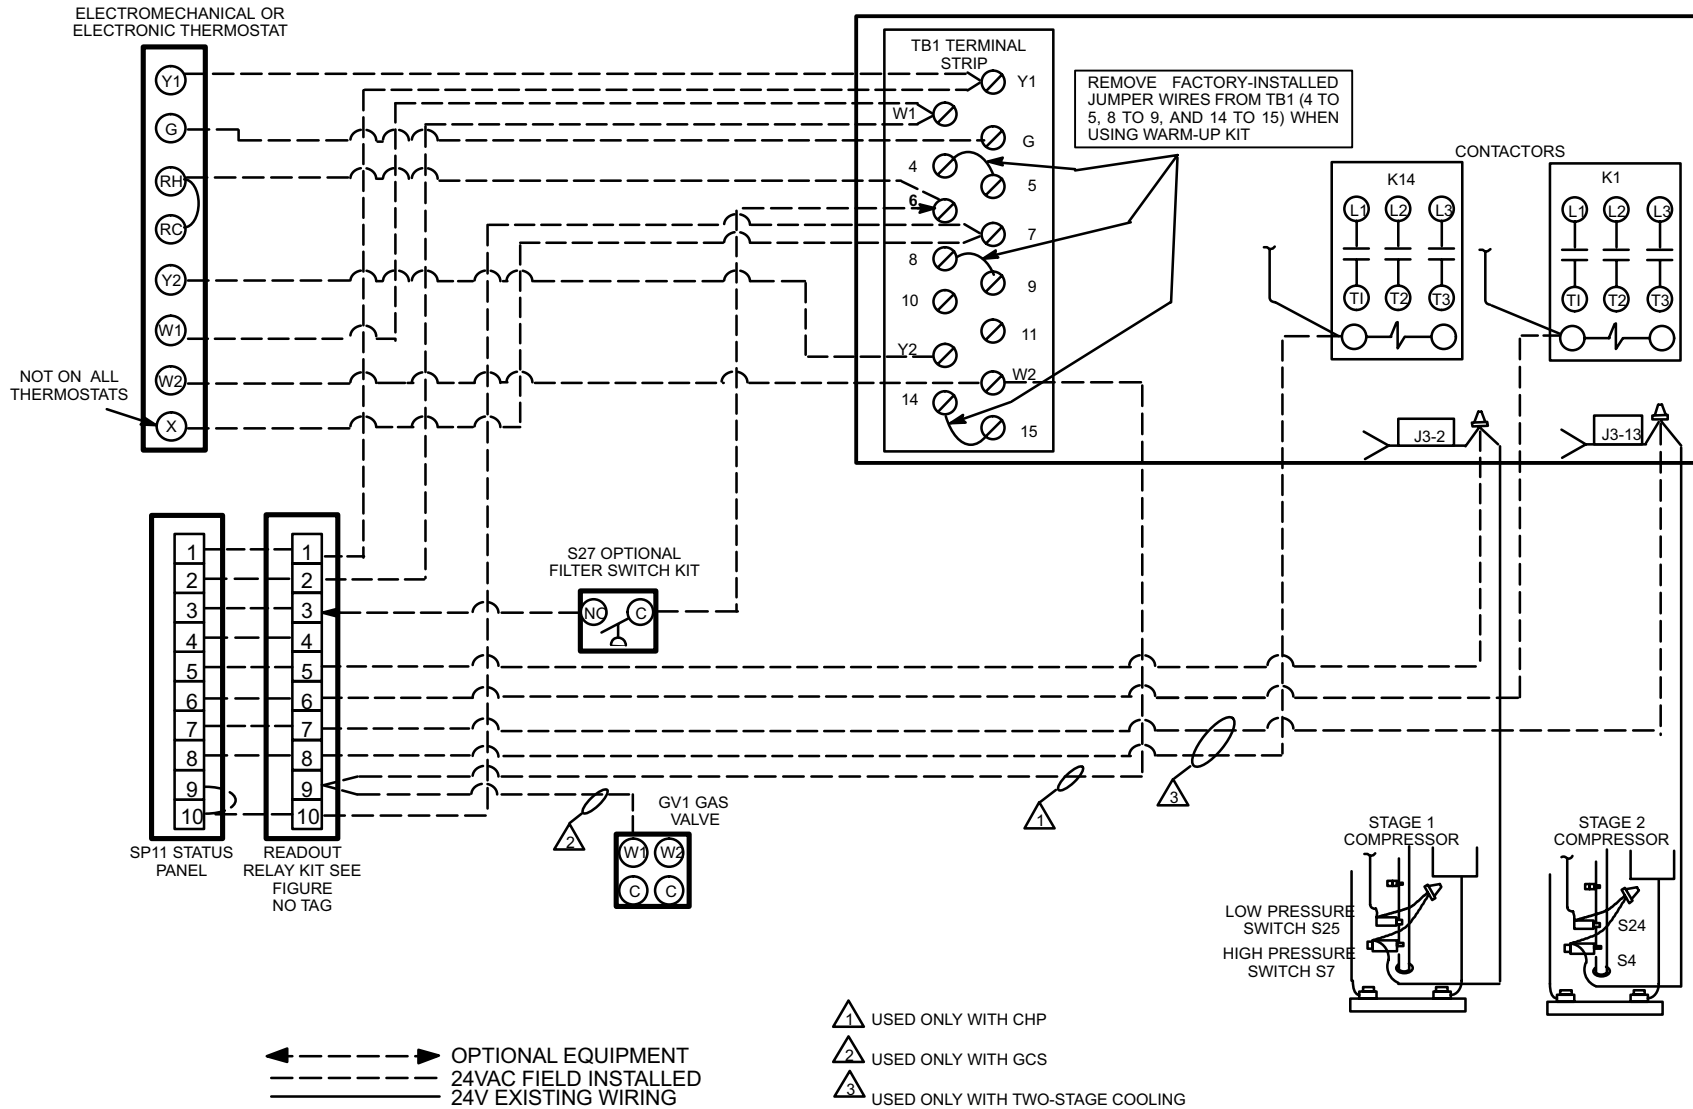

FIGURE 57
- 2- Make electrical connections as shown in figures 57, 58 and 59.